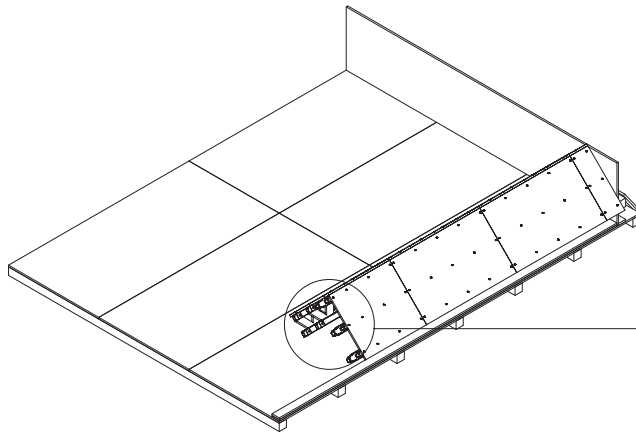

Fig. A3.04
4. Position the plywood and fix the first sheet with nails. The formlining is flush with front edge of fifth girder. Fix using approx. 10 TSS Torx 6 x 60, or TSS Torx 6 x 60 ZKS per m². (Fig. A3.04)